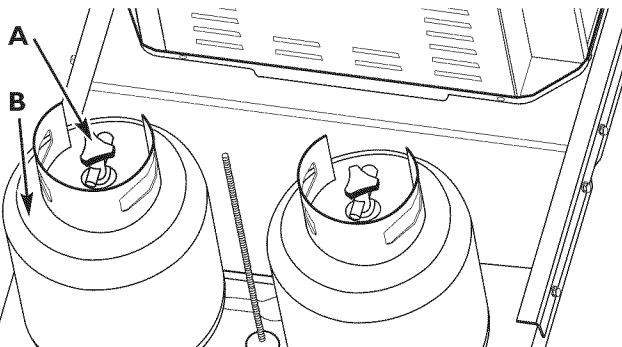

Figure 5 — Proper Position for LP Fuel Tanks
2. Place each LP tank into the LP tank tray with it's fuel valve pointing towards the generator (see Figure 5).